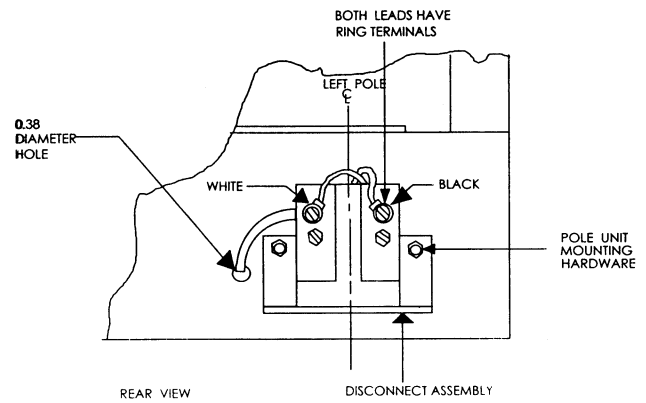

Figure 25. Fourth-wire disconnect installed on AK-50 & AKS-50 draw-out breakers.
The fourth-wire disconnect for AK-50 and AKS-50 draw-out breakers mounts to the lower back frame, as shown in Figure 25.
- If the disconnect must be added, mount it as shown in Figure 25.